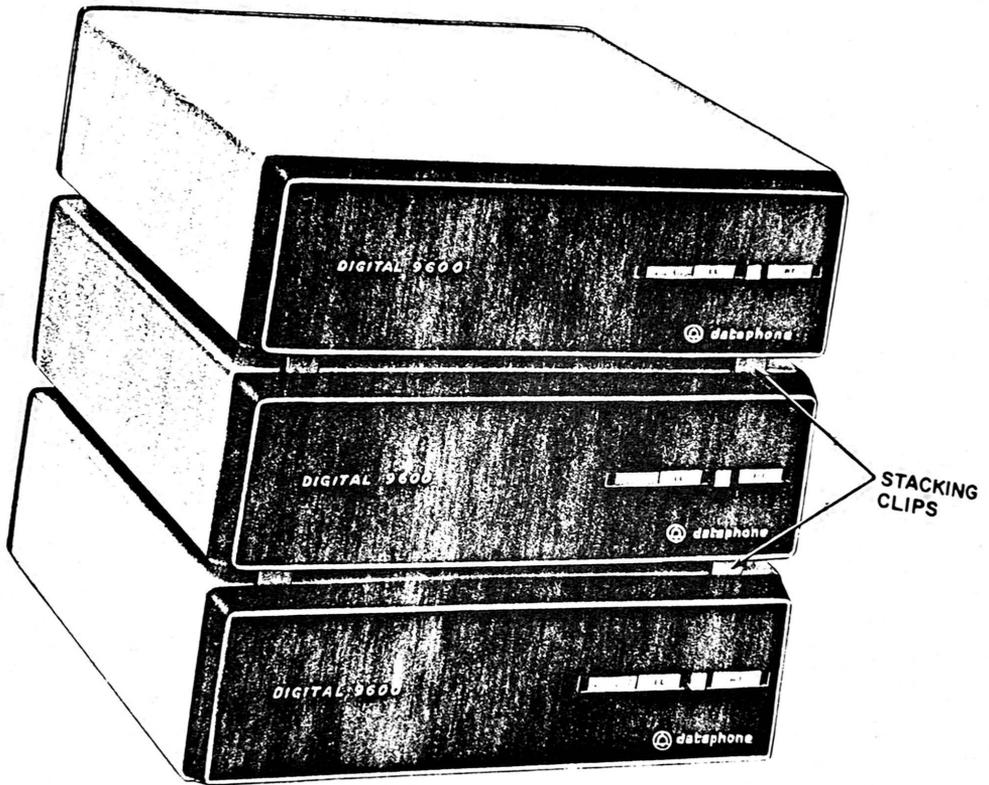

Fig. 3--Multiple Installation--Stacked Arrangement Using Clips for a Maximum of Three DSUs
**3.07** For multiple installations, three DSUs may be stacked without exceeding the maximum internal operating temperature. The four clips supplied with each DSU are used to support the center and top DSUs. They are inserted into the slots provided on the dovetail feet as shown in Fig. 3. When the sets are stacked, the tabs drop into holes provided in the top of the plastic faceplates and provide a secure, stacked arrangement.